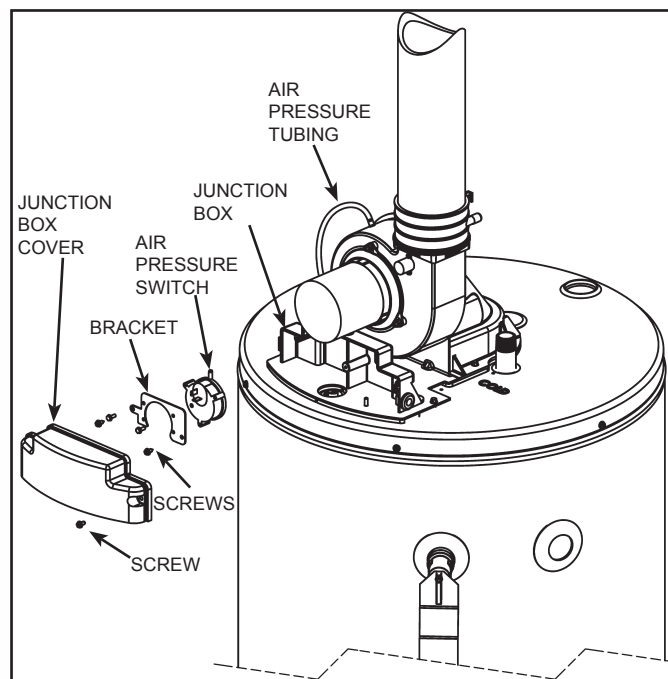

Figure 30. Removing the Pressure Switch
6. After noting the position of each electrical flag terminals, remove the two (2) electrical flag terminals from the switch by pulling outward and off the switch.
7. Using a hex head screwdriver, remove and retain the 2 screws securing the bracket to the junction box. See *Figure 30*.
8. Using a hex head screwdriver, remove and retain the 2 screws securing the pressure switch to the bracket. See *Figure 30*.
1. Using a hex head screwdriver, secure the new pressure switch to the bracket with the screws removed in step 8 above. Care should be taken to ensure the proper orientation of the bracket and pressure switch. See *Figure 30* (page 25).
2. Using a hex head hex screwdriver, secure the bracket to the junction box with the screws removed in step 7 above. See *Figure 30* (page 25).
3. Reattach the two (2) electrical flag terminals by pushing the flag terminals onto the switch. Care MUST be taken to ensure that each of the electrical flag terminals is in its original position.